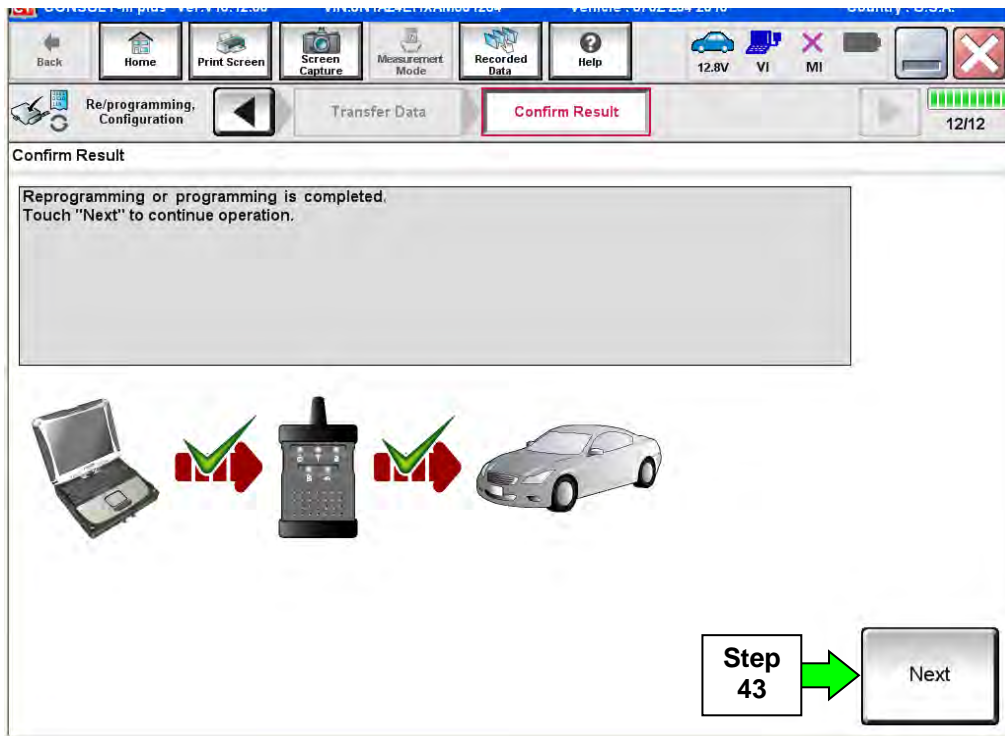

Figure 21
41. When the screen in Figure 21 displays, the reprogramming is complete.
NOTE: If the screen in Figure 21 does not display (which indicates reprogramming did not complete), refer to the information on the next page.